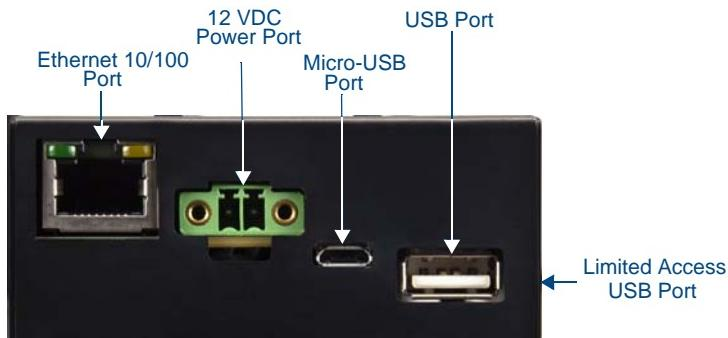

FIG. 20 MXD-1900L-PAN rear connectors (front view)
9. Insert each connector into its corresponding location along the back of the device (FIG. 20).